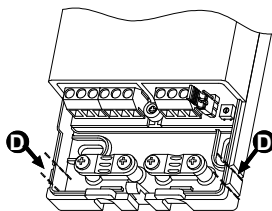

Fig. 4
**Side cable entry:** With suitable pliers, remove the plastic teeth, as indicated by arrows in **D** Fig. 4.